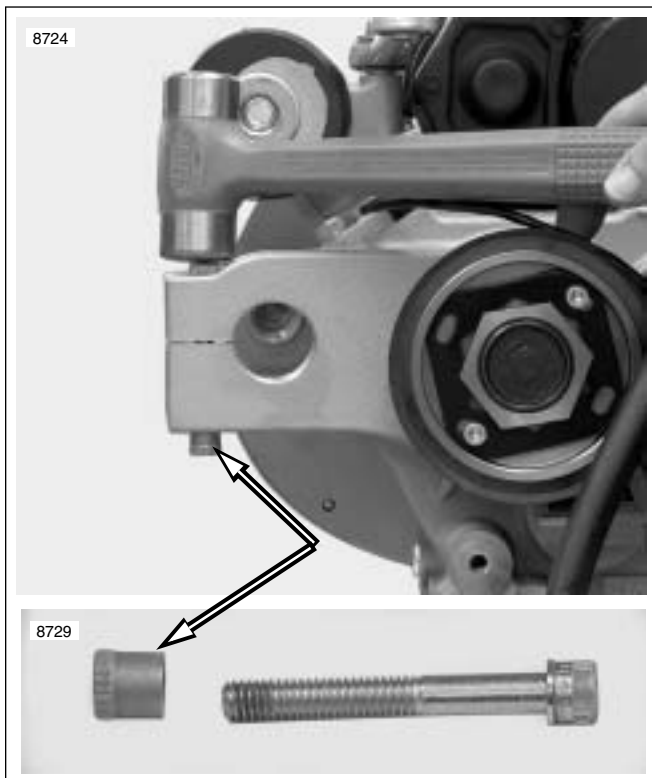

Figure 3-28. Removing Threaded Insert
- See Figure 3-28. Swingarm pivot shaft pinch bolt threaded insert.